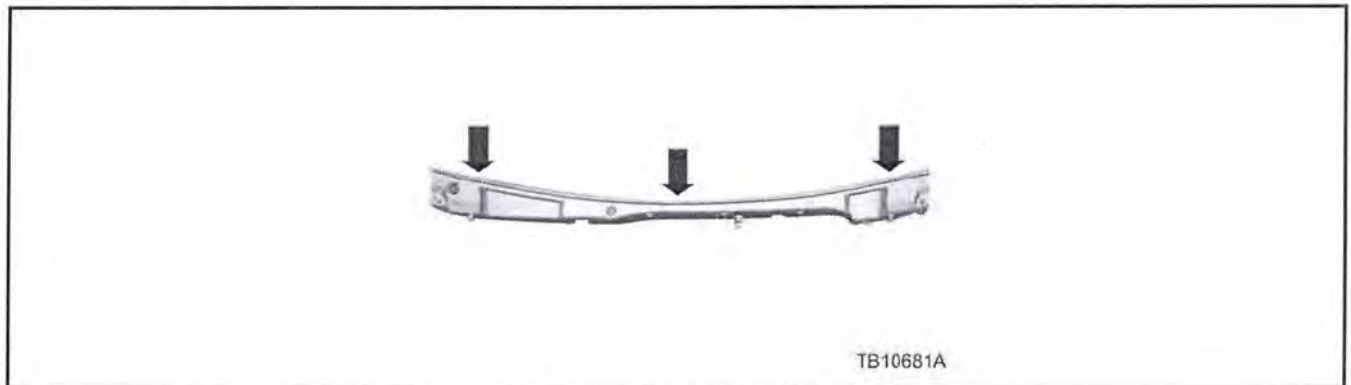

Figure 1 - Article 15-0074
4. Apply a foam tape strip along the back of the cowl panel grille. (Figure 1)